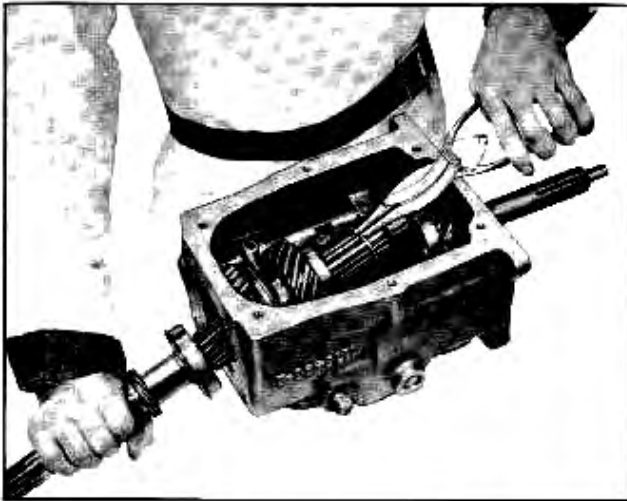

Fig. 7-14 Removing Second Speed Gear Snap Ring
6. Remove snap ring holding second speed gear to main shaft using tool KMO-630 (Fig. 7-14).